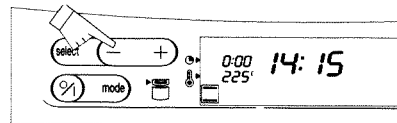

Fig. 6
5. Press the  touch controls to set the cook time required (fig. 6). (Up to 10 hours maximum).